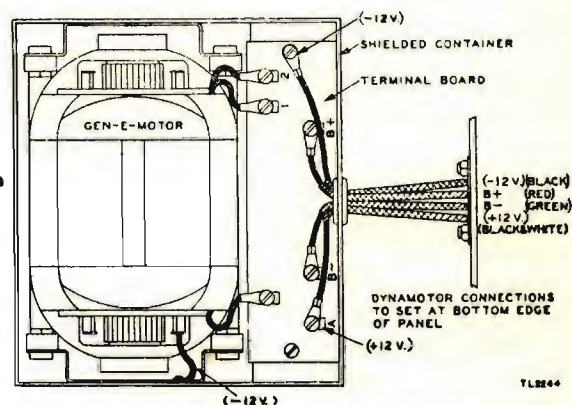

Figure 11. Dynamotor connections.
(1) In Radio Receiver BC-312-(\*), replace the repaired dynamotor in the receiver and connect the dynamotor input and output leads (fig. 11). Apply the proper d-c (direct-current) voltage to terminals D and T of socket SO1.
(2) In Radio Receiver BC-342-(\*), reconnect the filament lead from the repaired rectifier to terminal No. 5, and the B+ lead to terminal No. 7 of the group-6 terminal board. Depending upon the voltage for which the rectifier is set, connect 110 or 120 volts a-c to socket SO2.